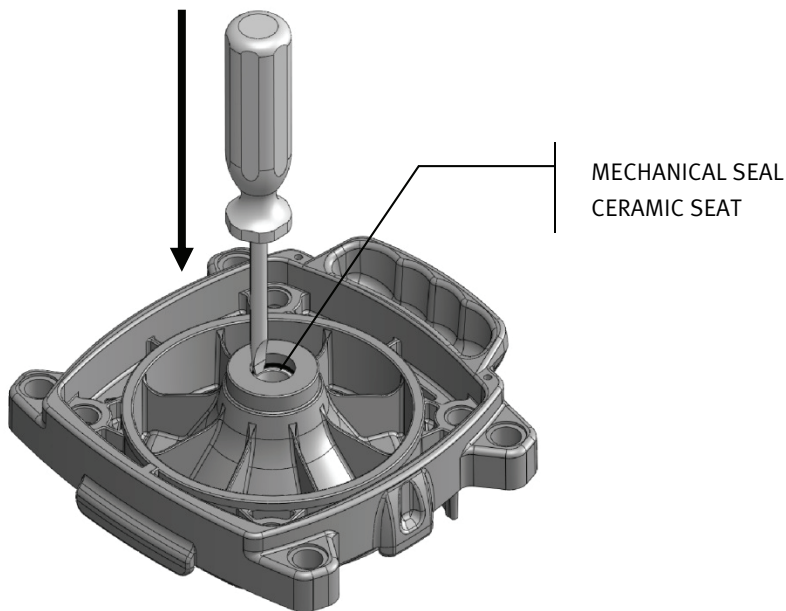

Fig 7.3.1
6. Remove the seal plate (item #13) from the motor by removing the four (4) 3/8" x 1" (item #14) that secure it to the motor, using a 9/16" wrench or socket.
7. Press the ceramic seat with rubber cup out of the seal plate. If tight, use a small screwdriver to tap seal out. See Fig 7.3.1